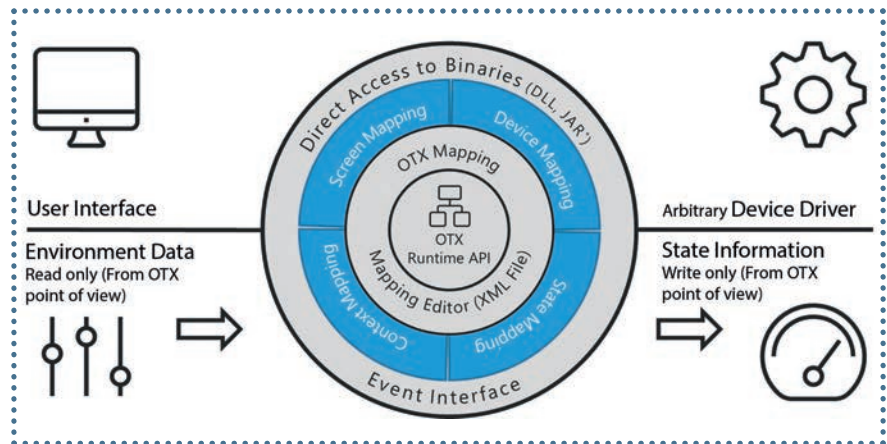

Figure 2. Linking external systems in OTX. (© emotive)
- Mapping status information (state mapping), for example to output the flash progress (see Figure 2)